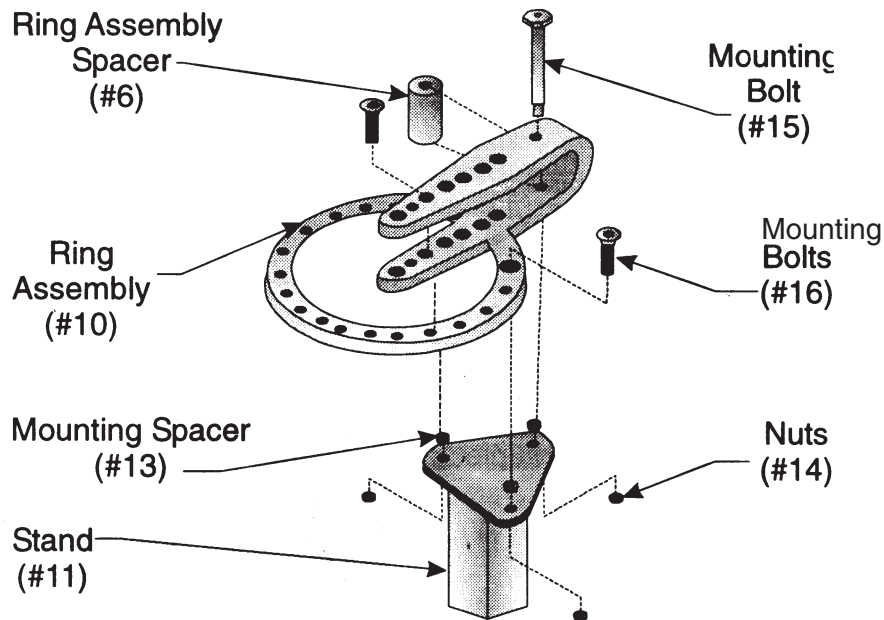

Figure 1-Assembly
Step 2) Place the three (3) Mounting Spacers (#13) over each hole on the top of the Stand (#11)-see Figure 1.
Step 3) Place the Ring Assembly/Die Receiver (#10) over the three Mounting Spacers (#13) so that the two holes on the Ring Assembly (#10) line up with the corresponding Mounting Spacers (#13). Insert two (2) Mounting Bolts (#16) through the Ring Assembly (#10), Mounting Spacer (#13) and Stand (#11). Tighten on Nuts (#14)-see Figure 1.
Step 4) Place the Ring Assembly Spacer (#6) inside the arms of the Ring Assembly/Die Receiver (#10) between the back two holes-see Figure 1. Insert the Mounting Bolt (#15) through the Ring Assembly/Die Receiver (#10), through the Ring Assembly Spacer (#6) and through the bottom hole in the Ring Assembly/Die Receiver. Tighten it into place with the remaining Nut (#14).